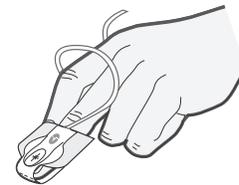

Figure 8
5. With the emitter positioned over the fingernail, secure the wings around the finger (see Figure 8).